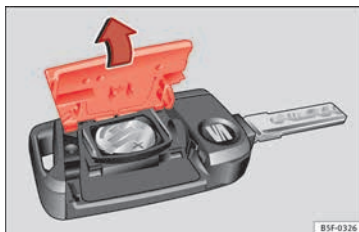

Fig. 133 Vehicle key: opening the battery compartment
- Remove the cover from the back of the vehicle key » **Fig. 133** in the direction of the arrow » **❶**.
- Fit the cover as shown » **Fig. 133**, pressing it onto the vehicle key casing in the opposite direction to that shown by the arrow until it clicks into place.
❶ CAUTION